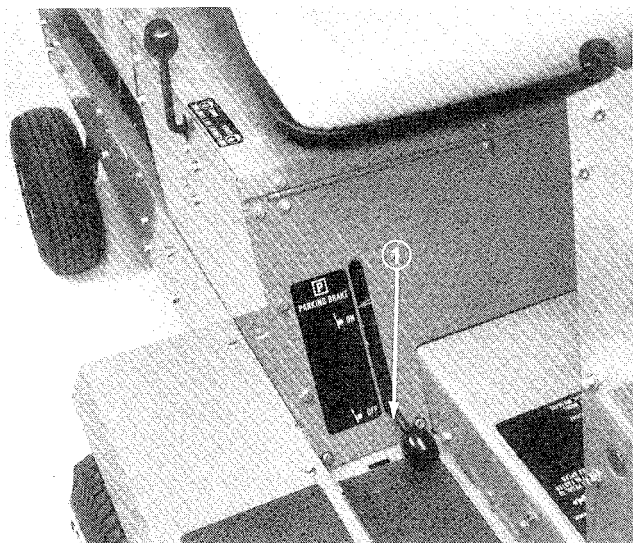

Figure 10
**Parking Brake** (Fig. 10) — Whenever the engine is shut off, the parking brake must be engaged to prevent accidental movement of the machine. To engage the parking brake, pull up on lever. Parking brake is equipped with an interlock, which shuts off engine when PTO switch or traction pedal are engaged with brake on.